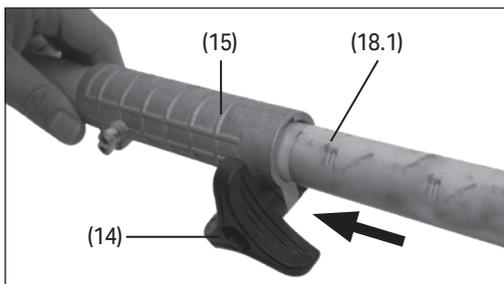

Fig.6
- Align the attachment guard (19) with the shaft (18). Attach the bracket to the guard with the hex bolt supplied, finger tighten.
6.3 Connecting and Changing the Attachments (Fig.6)
- Before starting the engine, the required attachment must be correctly fitted to the shaft connector (15).